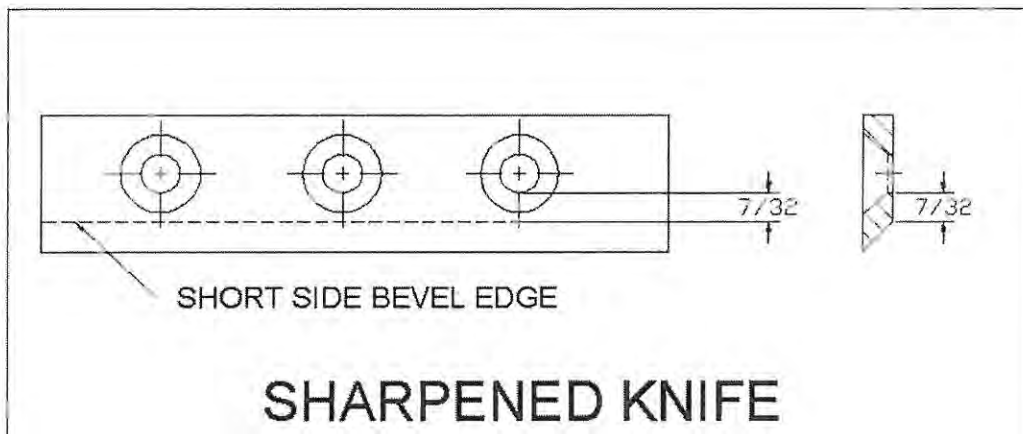

Figure 3
- Once this measurement is below 7/32" (see figure 3) the knife should be replaced.